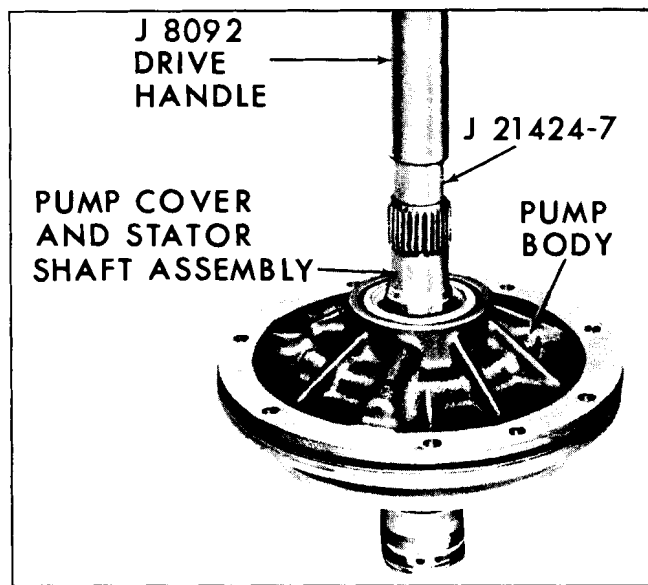

Fig. 7G-89 Installing Shaft Front Bushing
2. Install new bushing into front end of stator shaft by using Bushing Tool J 21424-7 and Drive Handle J 8092. Tap bushing into shaft to .250" below front face of shaft (Fig. 7G-89).